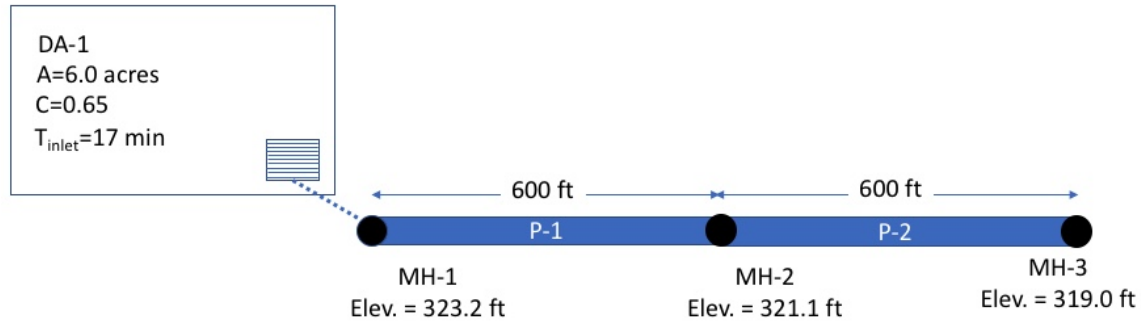

Figure 5. Drainage System Layout.
10. (15 points) Consider the drainage area depicted in Figure 5. The 6.0 acre drainage area has a runoff coefficient of 0.65, and an inlet time (time of concentration to the inlet depicted in the figure) of 17 minutes. The pipes are concrete (Manning's $n = 0.013$). The initial invert elevations for the junction boxes (MH-1, MH-2, MH-3) are 323.2, 321.1, and 319.0 feet, respectively.